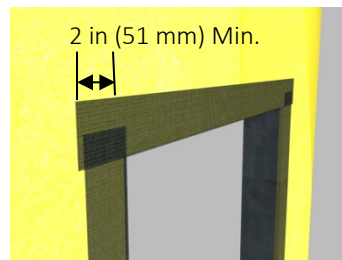

Fig. 4
- 5) Install the AquaFlash System at the head overlapping the jamb pieces a minimum of 2 in (51 mm) – Figure 4